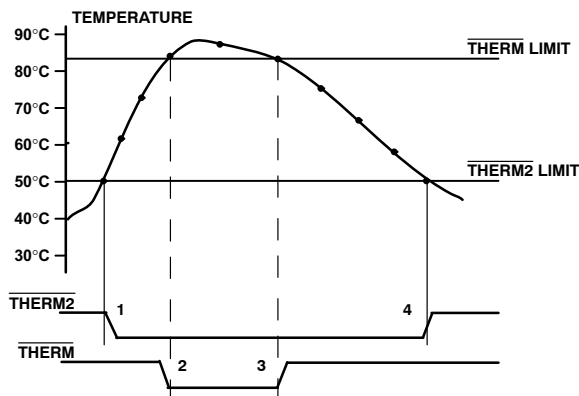

**Figure 19. Operation of the  $\overline{\text{ALERT}}$  and  $\overline{\text{THERM}}$  Interrupts**
Figure 19 shows how the  $\overline{\text{THERM}}$  and  $\overline{\text{ALERT}}$  outputs operate. A user may wish to use the  $\overline{\text{ALERT}}$  output as a  $\overline{\text{SMBALERT}}$  to signal to the host via the SMBus that the temperature has risen. The user could use the  $\overline{\text{THERM}}$  output to turn on a fan to cool the system, if the temperature continues to increase. This method would ensure that there is a fail-safe mechanism to cool the system, without the need for host intervention.
- The  $\overline{\text{THERM}}$  output de-asserts (goes high) when the temperature falls to  $\overline{\text{THERM}}$  limit minus hysteresis. In Figure 19, the default hysteresis value of 10°C is shown.